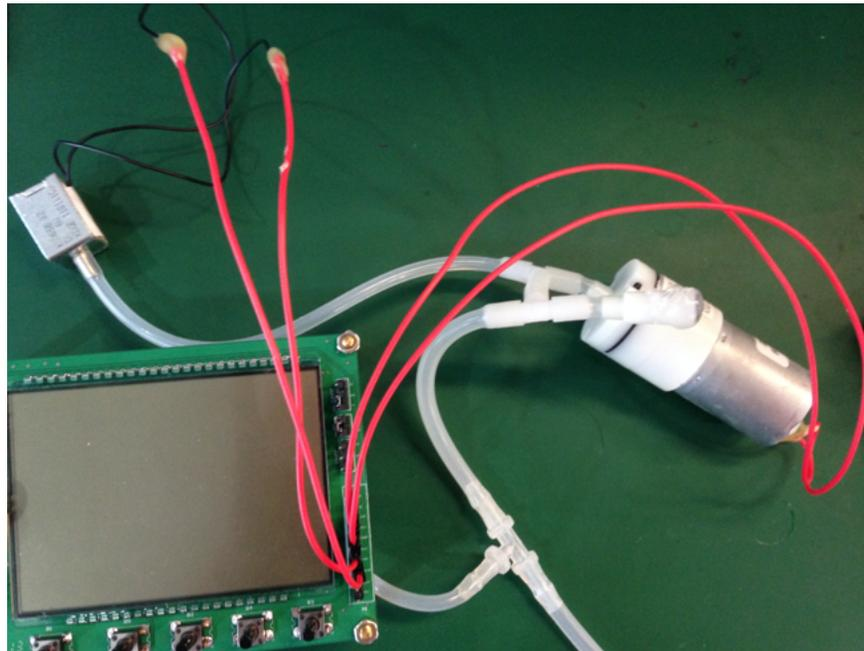

Figure 7. Pump and Valve Electronic Connection to the Board
3. Connect one wire of the valve to BAT and the other wire to CN6 (see Figure 7).